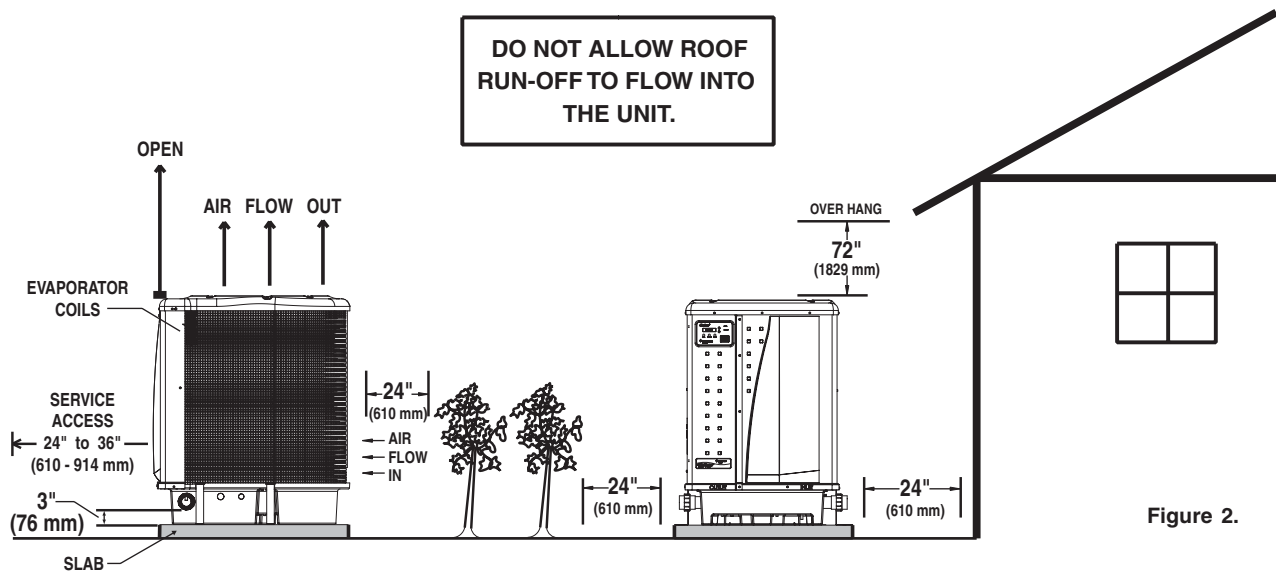

Figure 2.
1. At least 24 in. [61cm] access must be available in the front and 24 in. [61 cm] on all the other sides of the heat pump for service and proper air flow, see Figure 2.
2. If the heat pump is to be installed under a cover or under a vertical overhang, the unit must have a minimum of six (6) feet [1.83 m] clearance from the top of the heat pump.
3. Install a minimum of five (5) feet [1.52 m] from the inside wall of the pool or spa unless the heat pump is separated from the pool or spa by a five (5) foot high solid fence or other permanent barrier. Canadian installations require a minimum of three (3) meters from pool water.
Make sure the heat pump is not located where large amounts of water may run-off from a roof into the unit. Sharp sloping roofs without gutters will allow massive amounts of rain water, mixed with debris from the roof to be forced through the unit, see Figure 2. A gutter or down spout may be needed to protect the heat pump.